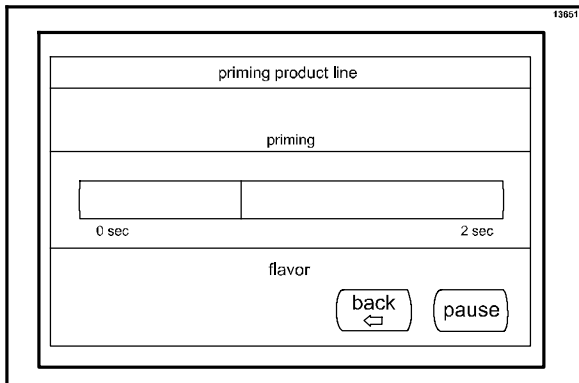

Figure 169
4. The product bag will begin priming. A bar graph screen will show the progress of the priming. (See Figure 169.)